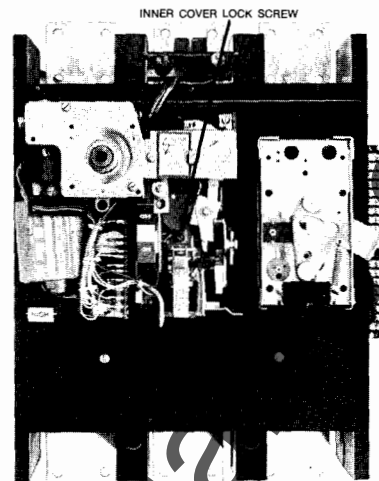

Fig. 4. Inner Cover Lock Screw
2. Loosen captive inner cover lock screw as shown in Fig. 4.
- c. Tighten inner cover lock screw to 10-in.-lbs. max., See Fig. 4.